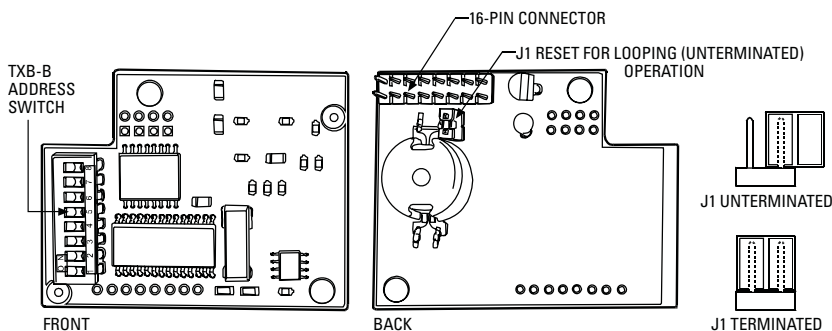

Figure 6. TXB-B Termination and DIP Switch
4. Set the J1 jumper on the TXB-B to the proper termination setting (refer to Figure 6). Note the following: